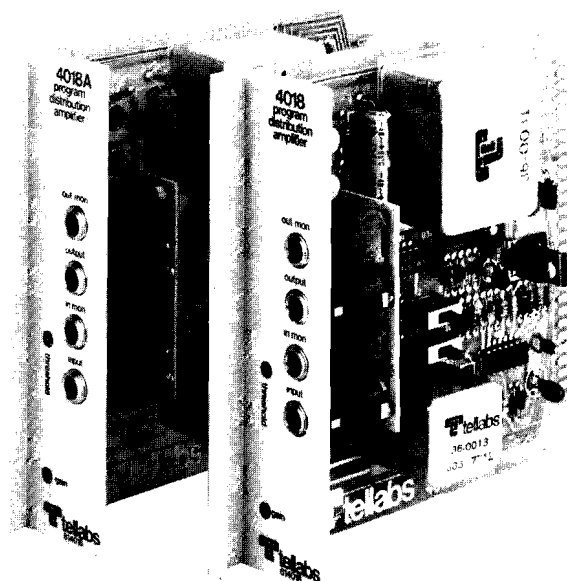

figure 1. 4018 and 4018A Program Distribution Amps
1.01 Tellabs' 4018 and 4018A Program Distribution Amplifiers (figure 1) are single-input, eight-output splitting amplifiers designed for use in 8kHz and 15kHz audio program distribution networks. Both the 4018 and 4018A derive eight independent outputs from a single, switch-selectable, 600 ohm or bridging (high impedance) input.